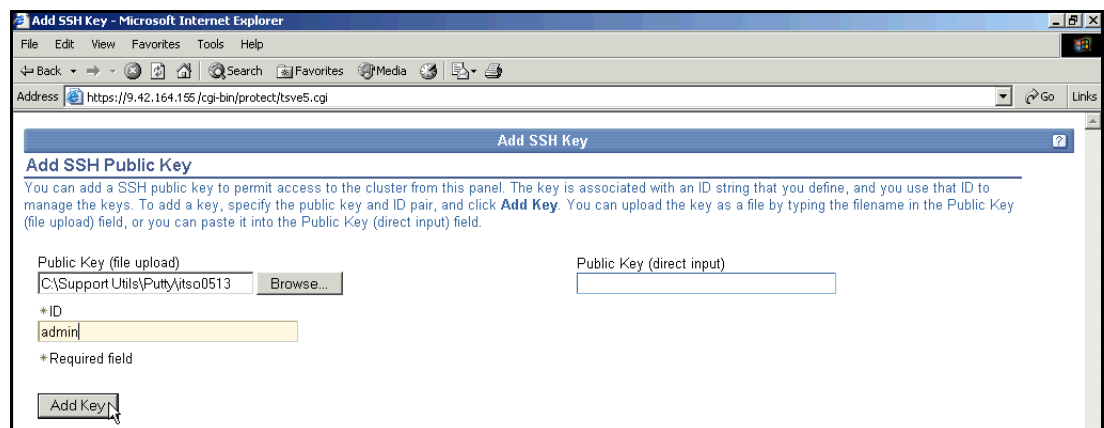

Figure 4-14 Add SSH Public Key
2. The Add SSH Public Key page (Figure 4-14) opens. Browse or type the fully qualified directory path and file name of the public key you created and saved in 4.2.1, “Generating public and private SSH key pair using PuTTY” on page 70. Then type the name of the user you want to associate with this admin key pair (for example, admin) and click **Add Key**.